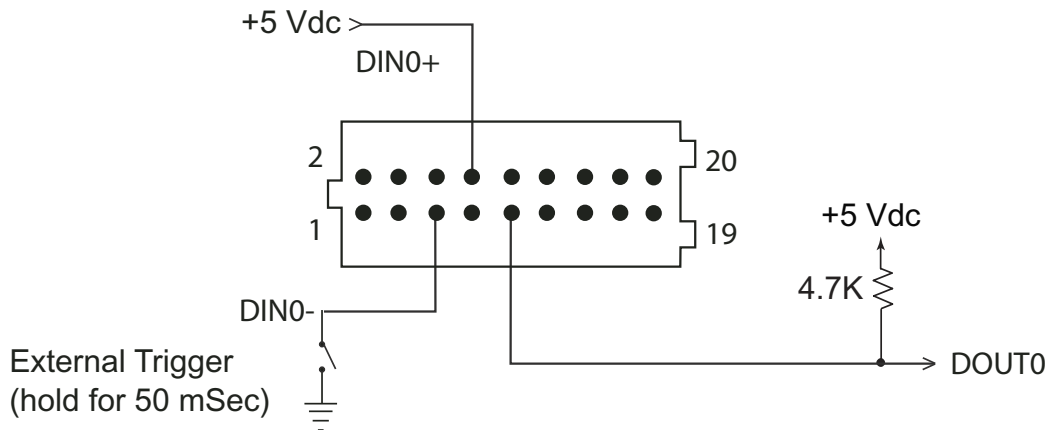

Figure 14–Typical Digital Input Trigger Circuit
12. As shown in Figure 14, apply +5 Vdc to DIN0+ (Pin 8) on SCON1.